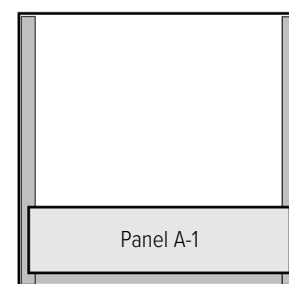

Figure 3.2.3
3.2.3 Repeat steps 3.2.1 through 3.2.2 for Elevation "B" & "C" as shown in Figure 3.2.3.